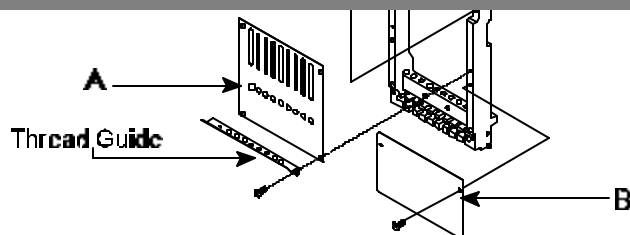

Figure 2
6. Using a Phillips Screwdriver, **remove** 6 screws from A, B Sewing Head Plates and Thread Guide . See *Figure 2*.